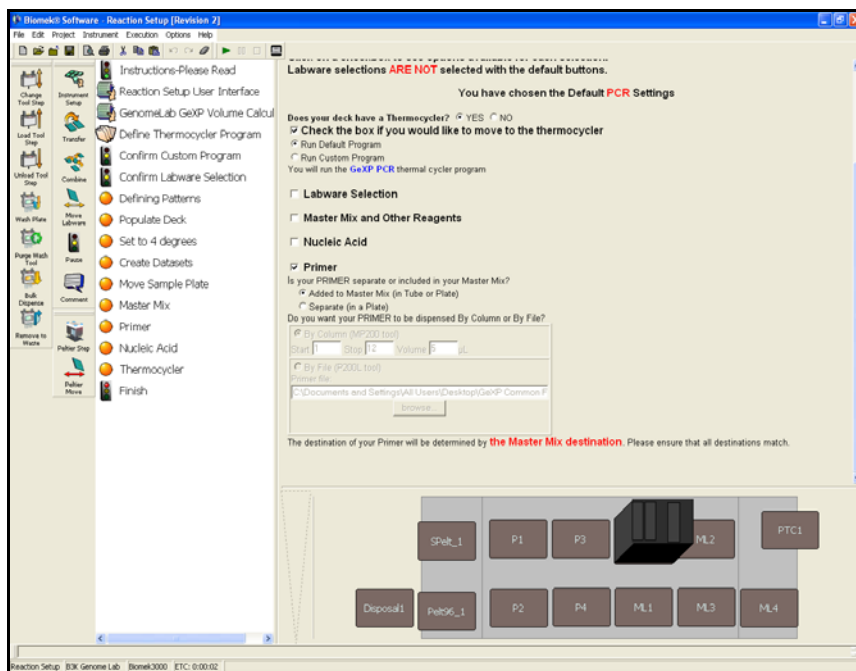

Figure 1-15. Reaction Setup User Interface step with Primer options displayed
6. Choose **Primer** to display the primer options (Figure 1-15).